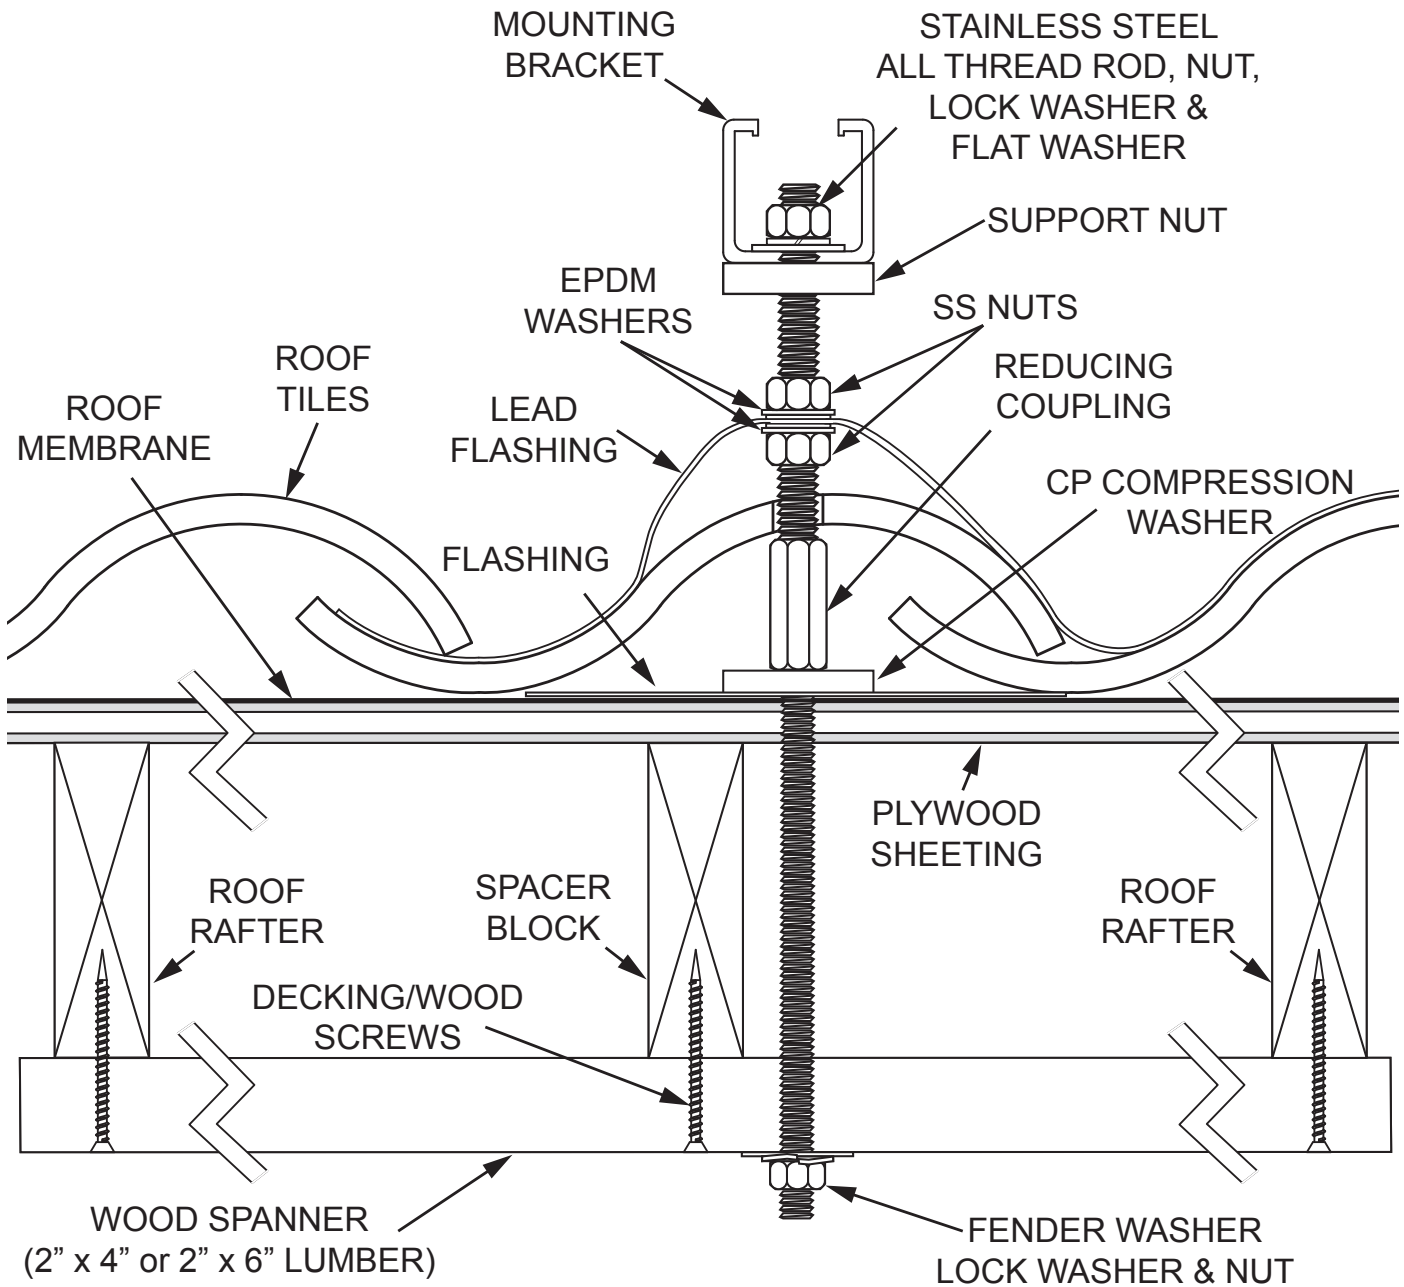

Figure 16.
using a 2" x 4" or similar lumber. Spanners must be long enough to span at least two rafters. In the attic or crawl space drill a 5/16" hole through each spanner and insert the all-thread through it. Secure each spanner to the rafters with decking or wood screws. See Figure 16.
9. Fabricate spacer blocks, one for each mounting bracket, using a 2" x 4" or similar lumber the same width of the rafter next to each all-thread. Place spacer blocks next to the all-thread between the spanner and roof. Secure each spacer block to the spanners with decking or wood screws. Spacer blocks are necessary to avoid deformation of the roof. See Figure 16.
10. With a stainless steel nut, lock washer and fender washer secure the all-thread to each spanner. Tighten down until the compression bracket washer is tightly secured to the roof and flashing (approx. 97 inch pounds). Be careful not to over tighten and dish out the roof underneath the mounting bracket washer and flashing. See Figure 16.
23. Install the mounting brackets on top of the support nut with the stainless steel flat washer, lock washer, & nut. See Figure 16.
24. Install the mounting brackets on top of the support nut with the stainless steel flat washer, lock washer, & nut. See Figure 16.